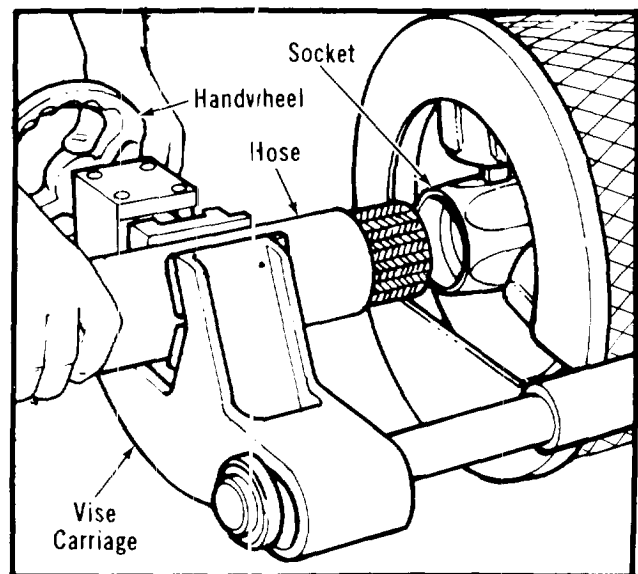

Figure 4. Clamping Hose in Vise.
1. Make certain that machine is stable and that Retaining Ring Assemblies (Fig. 4) are securing Vise Carriage onto Support Bars.
- 4 Clamp hose in vise (Fig. 4). Do not deform hose by clamping too tight.
7. Push on Vise Carriage (Fig. 4) to start hose into socket.